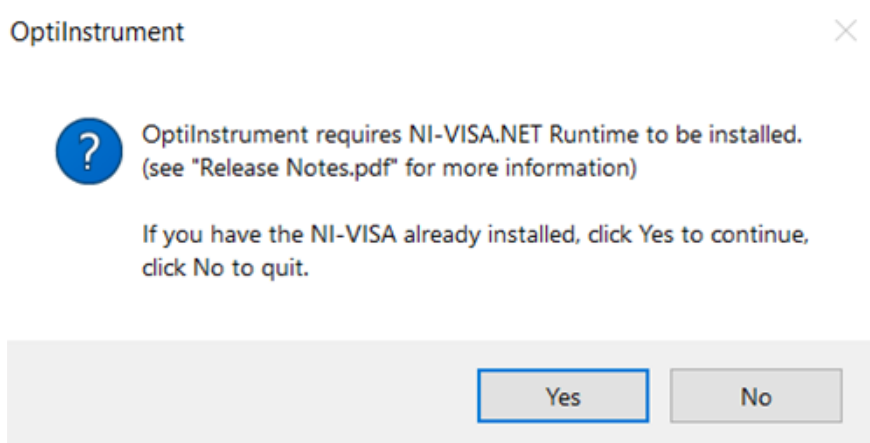
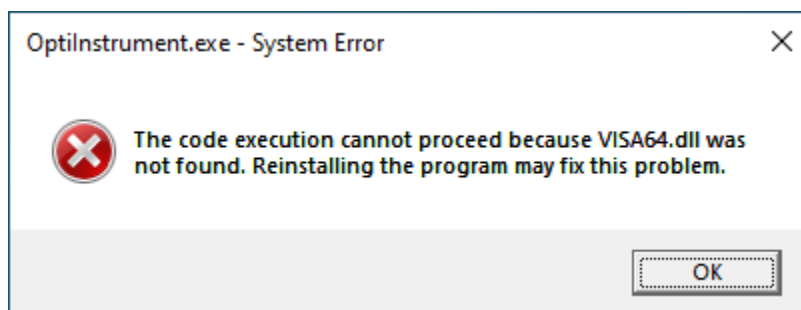

Fig. 1 OptiInstrument installation popup message
Fig. 2 OptiInstrument installation error message when NI-VISA Runtime is not preinstalled
- When starting the installation process of OptiInstrument software, the popup message shown in Fig.1 offers the user a choice to quit the installation process if the NI-VISA.NET Runtime package is not installed on the same computer or continue the installation if the package is installed. However, the error message shown in Fig. 2 appears when users launch OptiInstrument application while **NI-VISA package is not installed**. Users need to install NI-VISA Runtime package, then **run the batch file reactivate\_x64.bat as an administrator** to allow launching OptiInstrument software. The file is located at the following location: